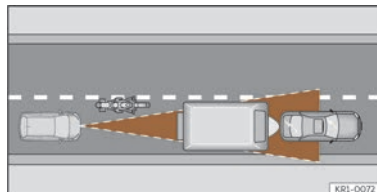

Fig. 125 Motorcyclist ahead out of range of the radar sensor.
- Vehicles that are not aligned while driving or that are outside the sensor's detection area, such as motorcycles >>> **Fig. 125.**